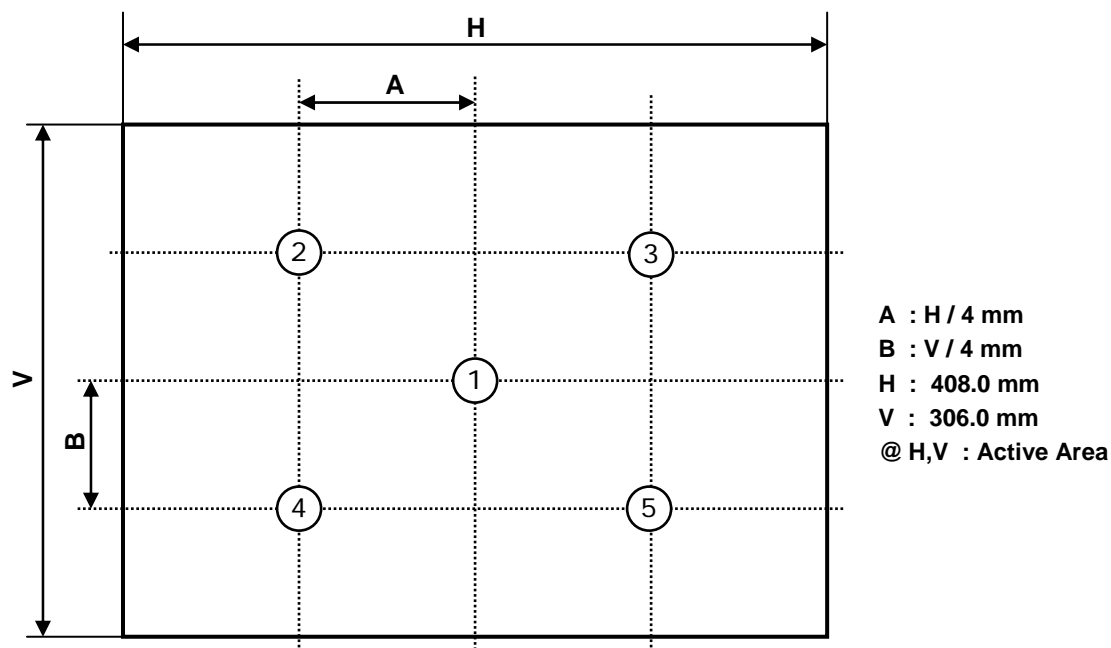

FIG. 2 Measure Point for Luminance
2. Surface luminance is the luminance value at center 1-point across the LCD surface 50cm from the surface with all pixels displaying white. For more information see the FIG. 2.
For more information, see the FIG. 2.